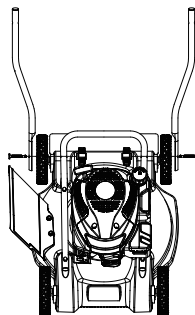

Fig. 2
1. Fix the lower handle on mower deck by bolts and knobs (Figure 2).